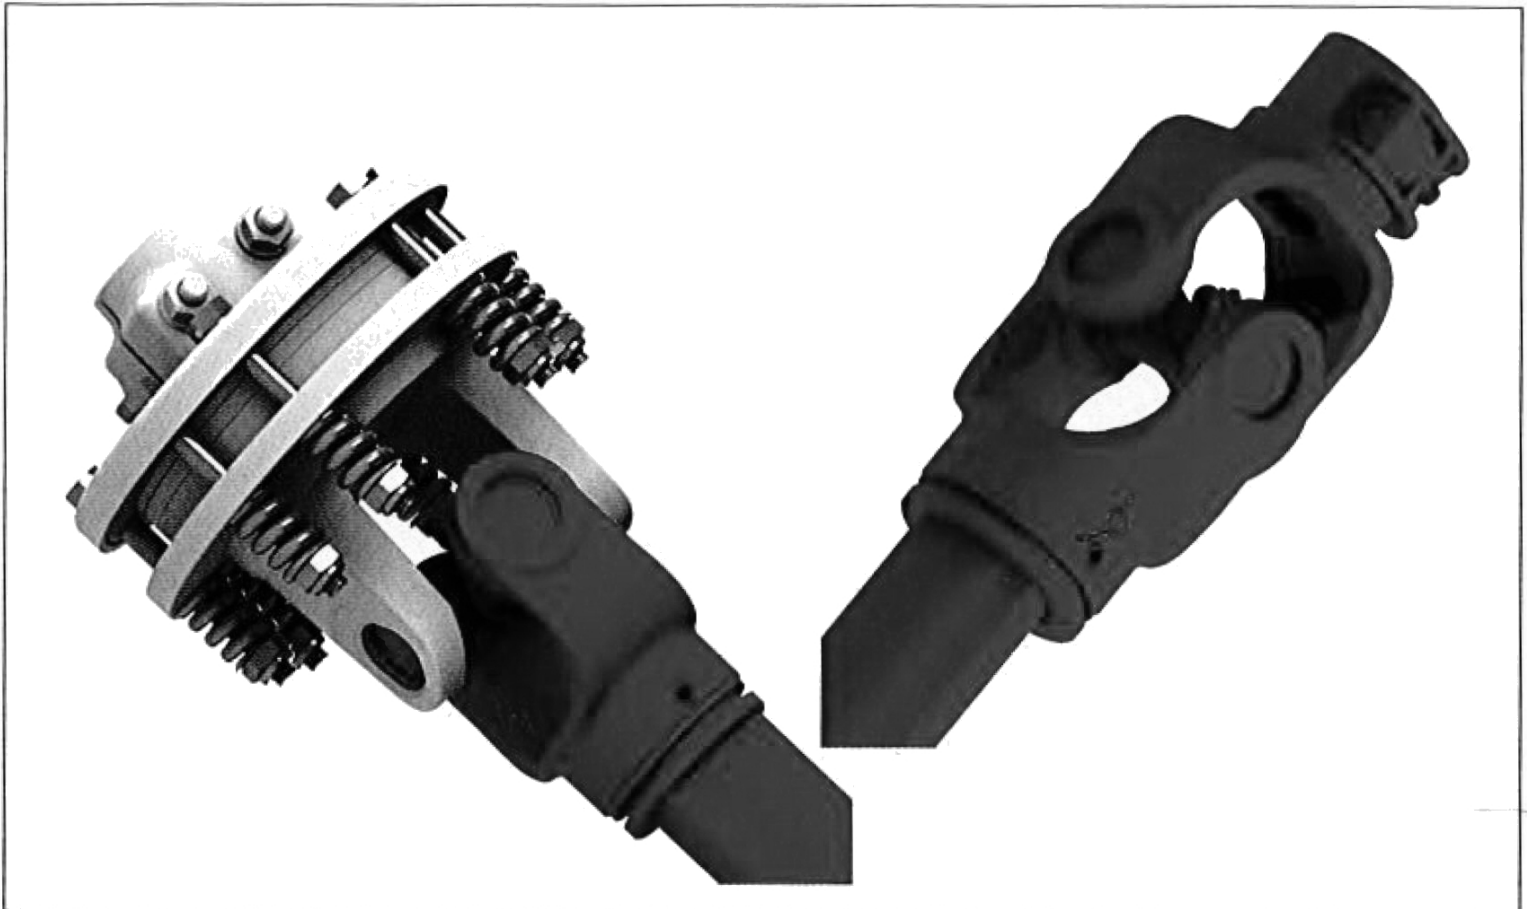

Figure 18 (Step 6)
- 6). Pull outward on the tabs adjacent to the split in the bearing to remove the bearings from either end of the driveline. Please refer to **Figure 18**, below, for a disassembled driveline.